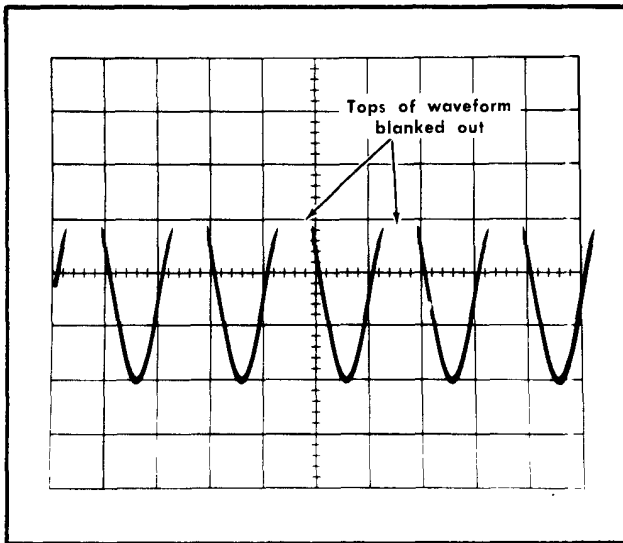

Fig. 5-20. Typical CRT display showing correct external blanking.
- d. CHECK—The positive peaks of the displayed signal should be blanked with a normal INTENSITY control setting (see Fig. 5-20).